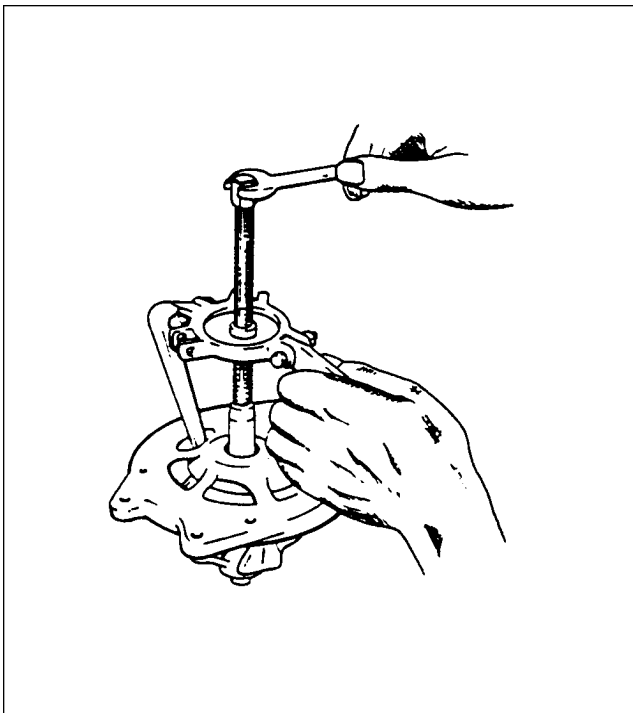
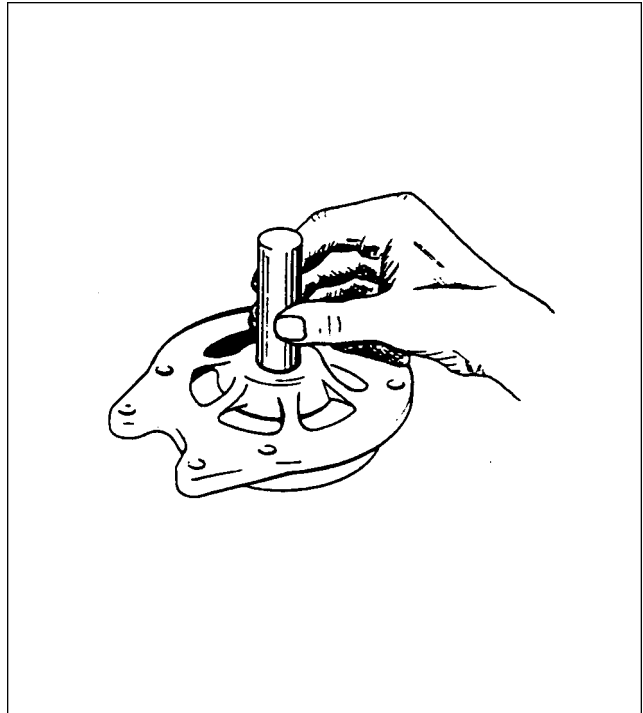

Figure 24-31. Removal of Drive End Head
Figure 24-32. Removal of End Head Bearing
6. To remove drive end head from rotor shaft, use a puller that grips on bearing retainer plate as shown in figure 24-31. Do not attempt to remove by supporting end head and pressing on shaft, as this may result in distortion of end head or stripping of retainer plate screws. Remove three retainer plate screws and press bearing out of end head. (Refer to figure 24-32.)